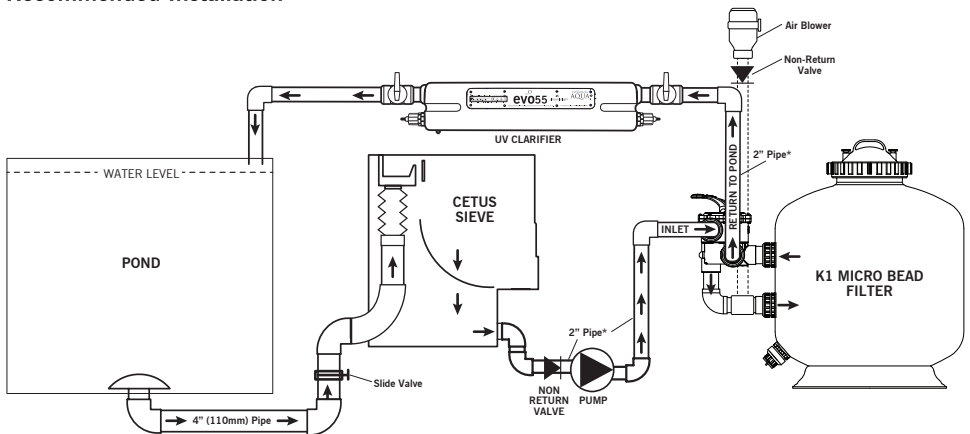

Figure 9.
9. Make pipe connections onto the valve. Pump line (inlet), return line and waste lines are marked on the valve. A ball valve, slide valve or non-return valve needs to be installed on the pumps suction line from the pond / pre-filter to the pump. We highly recommend a non-return valve (see figure 9). Refer to your pump manufacturer's manual to see if the pump is self-priming.